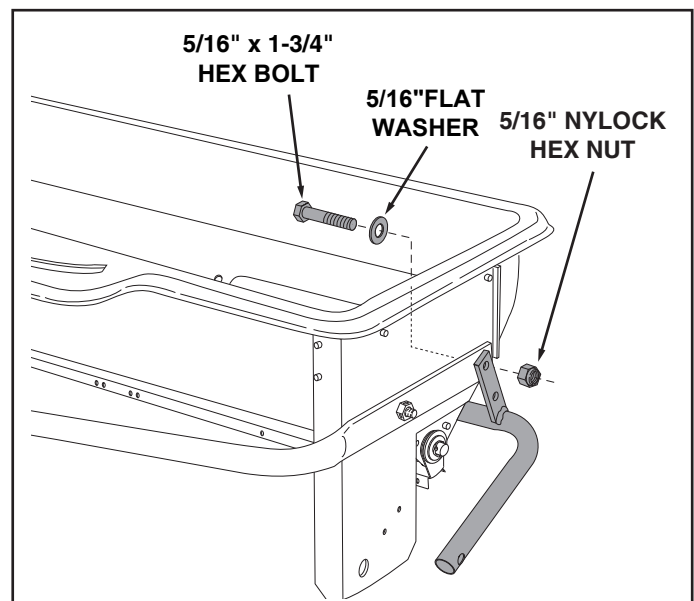

FIGURE 3
- On the left side, insert a 5/16" x 1-3/4" hex bolt through a 5/16" flat washer and then through the rear hole in the hopper and the hitch tube. Assemble the transport tube onto the bolt and secure it with a 5/16" nylock hex nut. **Do not tighten yet.** See figure 3.